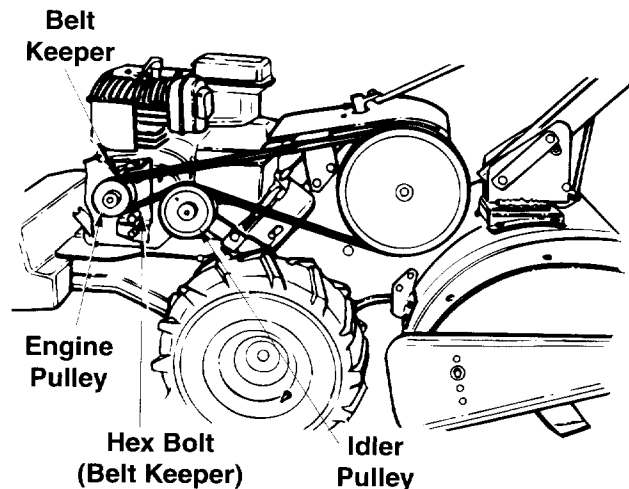

Figure 20
3. Remove the hex bolt (belt keeper) located beneath the engine pulley. See Figure 20.
NOTE: Upon reassembly, make certain the belt is routed over the idler pulley and inside of belt keepers by engine pulley. See Figure 20.